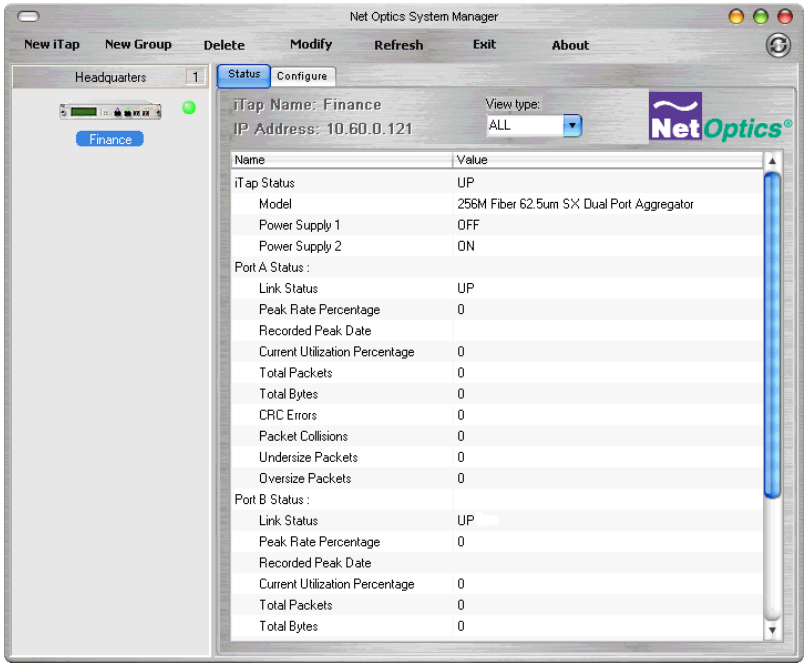

Figure 32: Net Optics System Manager with iTap
6. Check your settings and click **Create**. The System Manger now shows the iTap in the system similar to the screen shown in Figure 32.